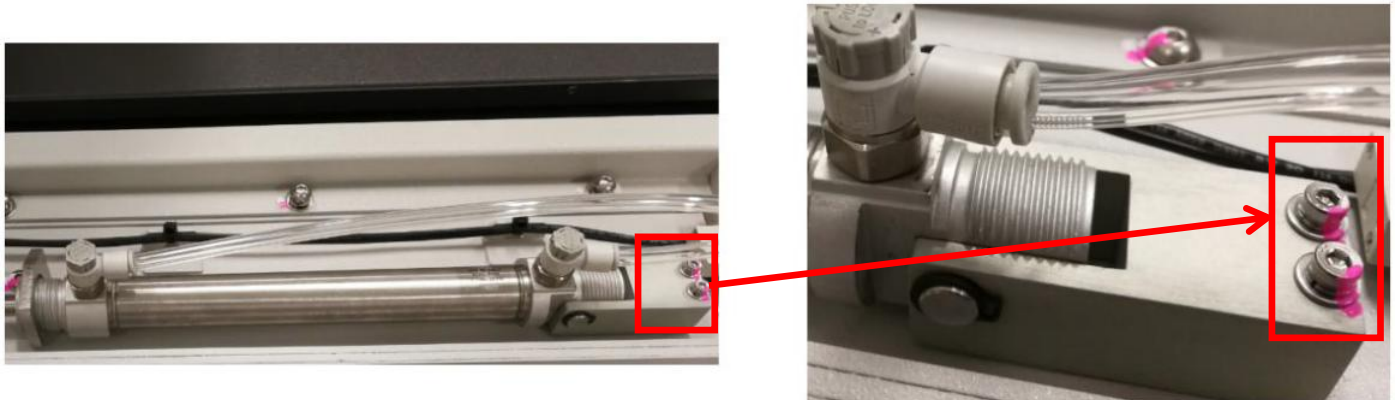

Figure 5
8. Loosen 2 x Screws & remove Rear Cylinder Holder as Figure 5